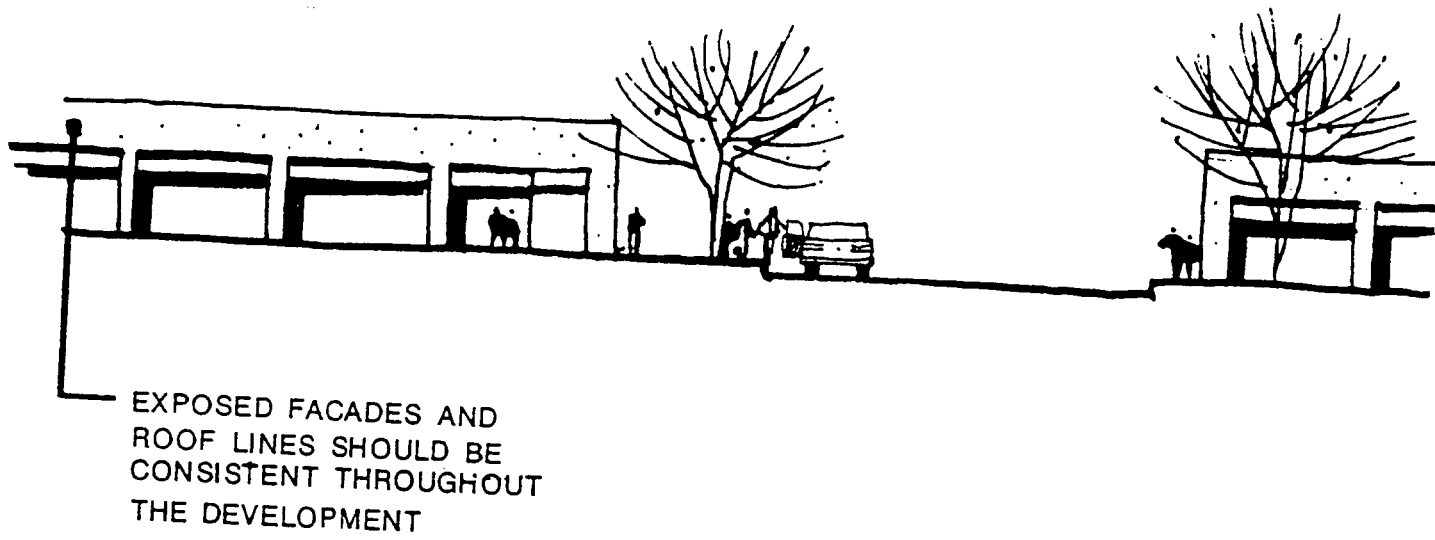

FIGURE 5
- Facades and roof lines facing streets or main parking areas should be consistent throughout the development in design, color and materials. (See Figure 5.)